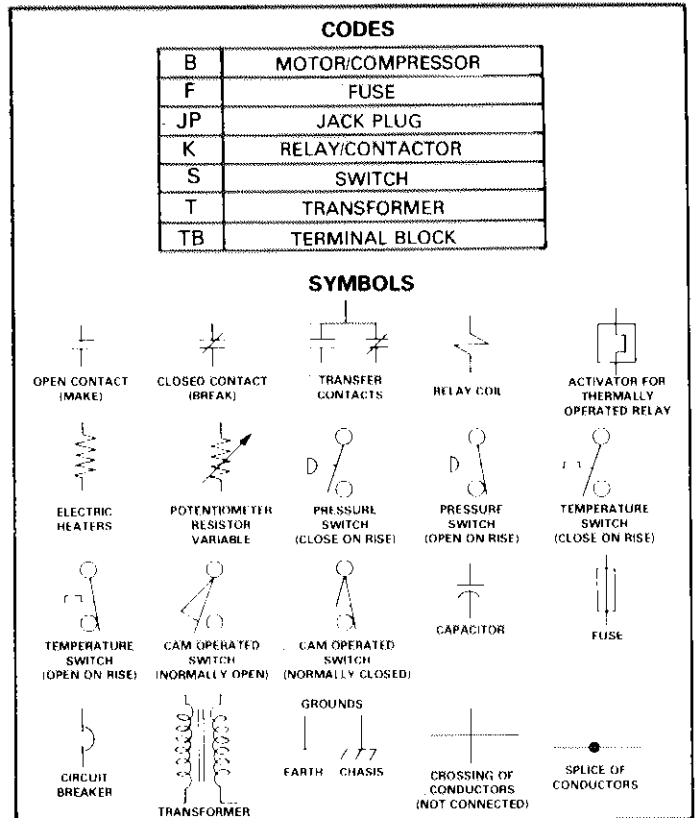

FIGURE 22
- 2 - The graphic symbols for components and code lettering conforms to the "IEEE Standard and American National Standard" of graphic symbols for electrical diagrams. All symbols and code lettering used are approved by the International Electrotechnical Commission (IEC). Refer to Figure 22 for code and symbol identification.